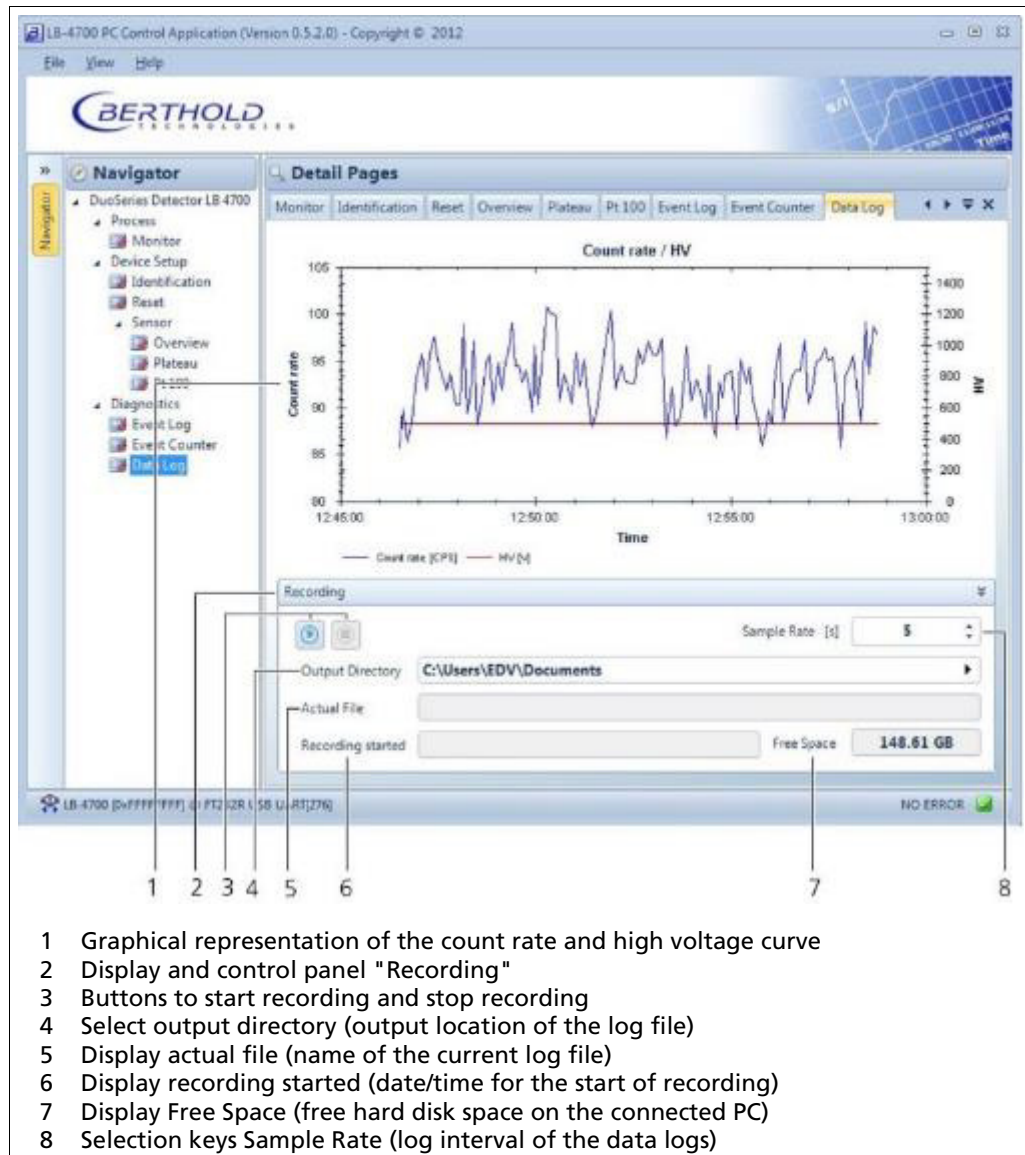

Fig. 48 Diagnostics | Data Log
Open the submenu Event Log in the menu group Device Setup | Diagnostics of the navigator by double-clicking on <Event Log> (Fig. 48). The submenu "Event Log" logs the last 25 events that have occurred with date, time and description.
1. If you want to clear the event list, click <Clear> (Fig. 48, item 3).
2. In order to print the event list, click <Print> (Fig. 48, item 4).
3. Click <Refresh> (Fig. 48, item 5), in order to load the list of events from the detector.
4. Click <Acknowledge> (Fig. 48, item 6), when an event requires an acknowledgement.